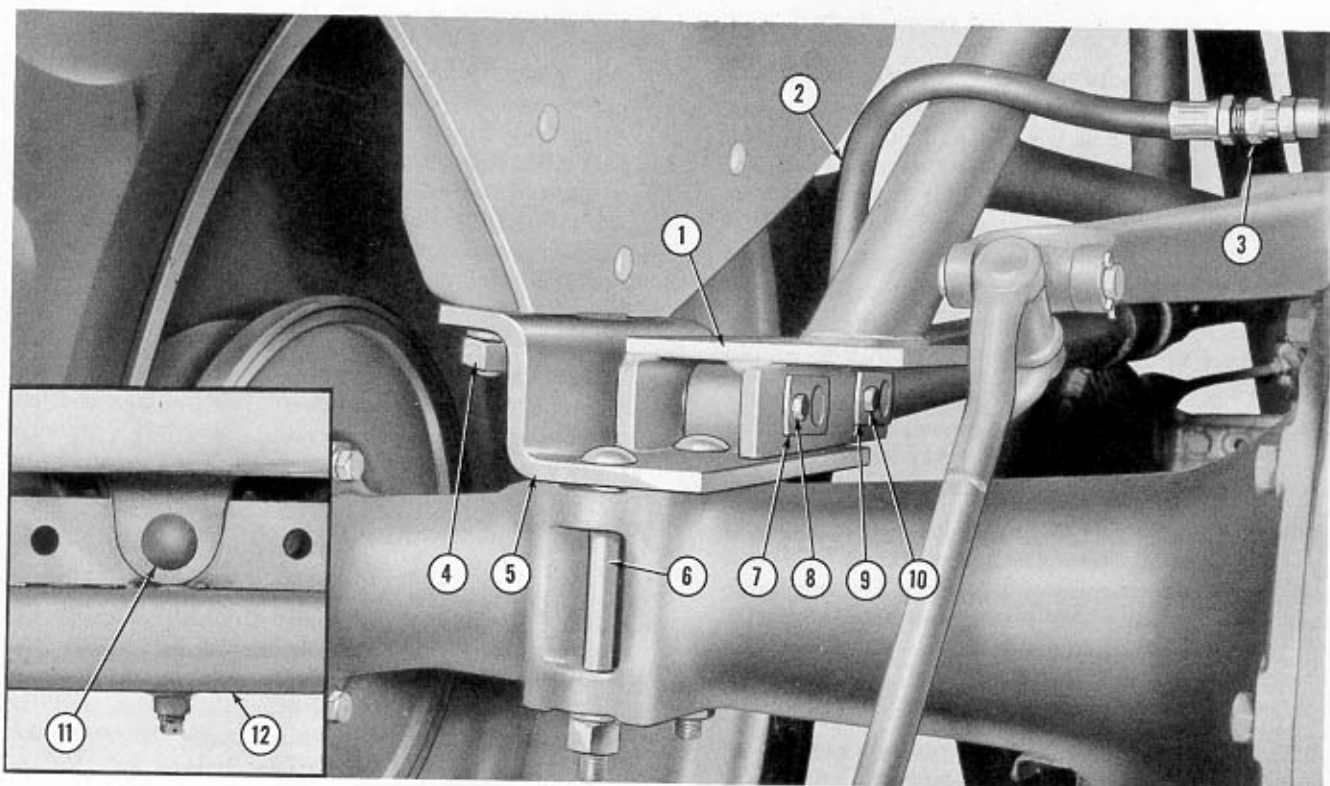
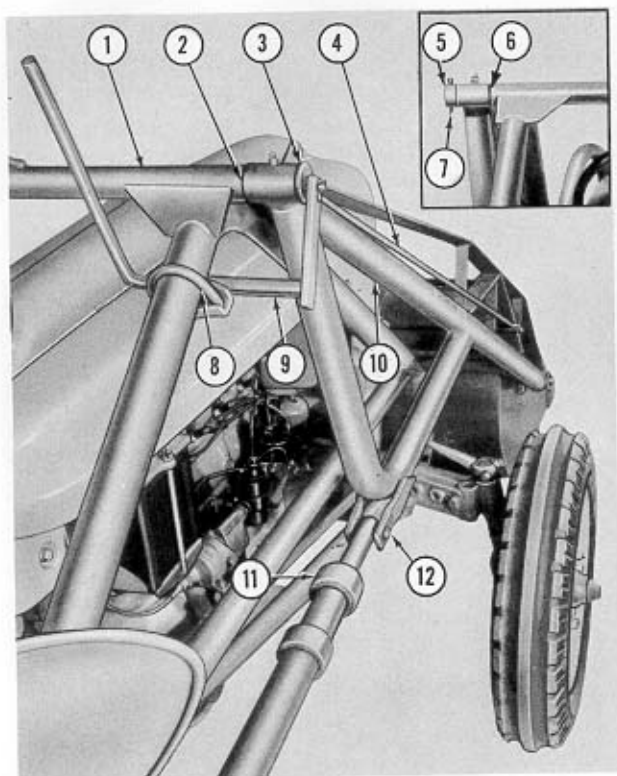

Figure 6
Figure 7
- Remove the fenders from the tractor and bolt them to the mounting brackets (5), Figure 6, with the four square head bolts, lockwashers, and nuts (4) provided. Attach the bracket and fender assembly to the axle of the tractor with the original fender bolts (6), Figure 6, lockwashers, and nuts.
- Attach the front end of the frame (12), Figure 6, to the suspension plate with the pin (11) and cotter pin provided.
- Secure the rear end of the loader frame (1), Figure 6, to each mounting bracket (5) with a long anchor pin (7), lockwasher and cap screw (8).
- a. Remove the lift arm trunnion shaft (3), Figure 7, from the lift arm assembly.
- b. Position the loader lift arm assembly (10), Figure 7, as shown and place a spacer (2) between the main frame and lift arms. Start the lift arm trunnion shaft (3) through the right lift arm, the spacer (2) and the tubular member (1). Position the spacer (6), Figure 7, as shown and slide the shaft on through the spacer and the left lift arm. Secure with the collar (5) and cotter pin (7).
9. Attach the front of a hydraulic cylinder (11), Figure 7, to each side of the loader lift arm assembly (10) with a short anchor pin (12). Secure the pin with a lockwasher and cap screw. Attach the rear of each cylinder to the loader frame (1), Figure 6, with a long pin (9), lockwasher, and cap screw (10) provided. Be sure that the hole for the hose outlet at the rear of the cylinder is in an upward position.
NOTE: Keep the cap (11), Figure 7, on each cylinder tightened hand tight. Attach a hydraulic hose (2), Figure 6, to each of the hydraulic cylinders. Attach the other end of each hose to each of the fittings (3).
10. Loosen the nuts on the U-bolt (8), Figure 7, and position the bucket trip lever assembly (9) so that the U-bolt is about 3" below the welded plate. The hole for attaching the rod (4) should be centered with the shaft (3). Tighten the nuts on the U-bolt securely. Attach the bucket trip rod (4) to the arm of the trip lever (9) and secure with a cotter pin as shown.
The bucket is raised or lowered by means of the Ford Tractor Hydraulic Touch Control Lever. To trip the bucket, pull back on the trip lever handle. (See Figure 7.) When the bucket is lowered to loading position, the bucket latch pin will automatically reset itself. Drive straight into the pile when loading a bucket. Do not overtax the loader by trying to fill the bucket on a turn. When loading from a pile of material, keep the surrounding area clean to secure better traction and more efficient operation.